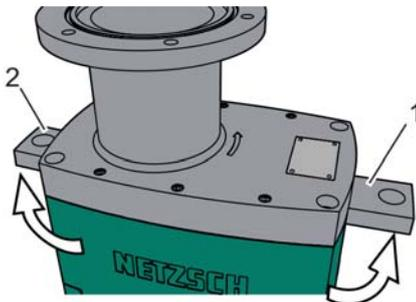

Fig. 80: Folding out the transport eyes, example
- 10. ➤ For vertical assembly, fold out the transport eyes (Fig. 80/1, 2) at the sides.